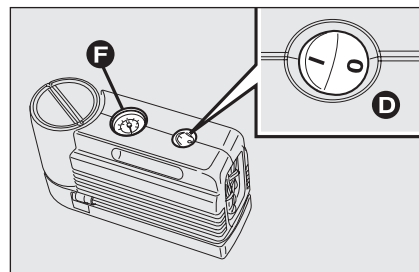
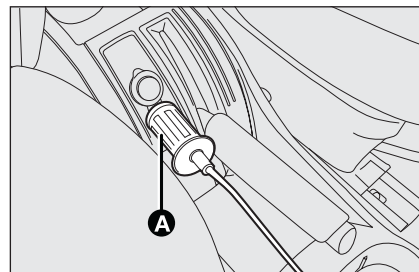

fig. 6
fig. 7
- make sure that the switch **D**-fig. 6 of the compressor is in position **0** (off), start the engine, insert plug **A**-fig. 7 into the cigar lighter (or 12V socket) and operate the compressor by taking the switch **D** to position **I** (on). Inflate the tyre to the pressure specified in the “Inflation pressure” paragraph, “Technical Specifications” chapter.
For a more accurate reading, check pressure gauge **F-fig. 6** with the compressor off;